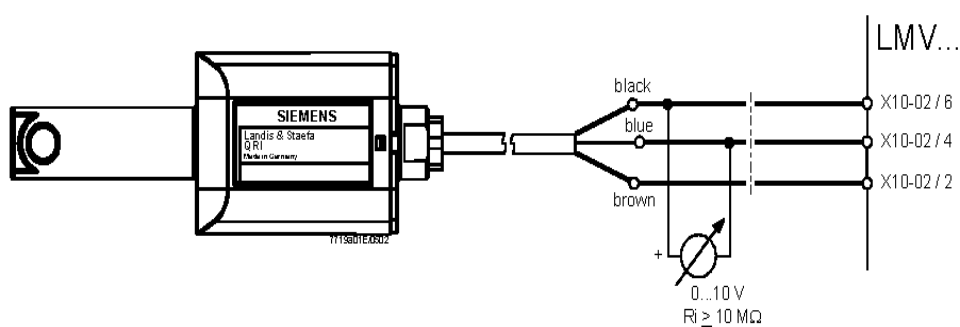

Fig. 1 - Detection with detector QRI...
- Change the filter if the pressure difference between pressure connection 1 and 3 (Fig. 1-Fig. 3) is  $\Delta p > 10$  mbar.
- Change the filter if the pressure difference between pressure connection 1 and 3 (Fig. 1-Fig. 3) is twice as high compared to the last check.